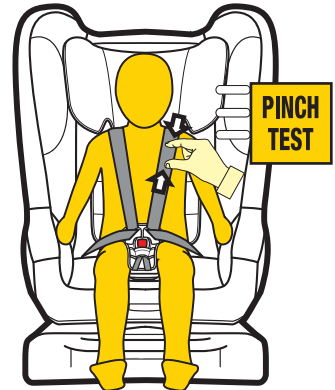

Figure 7
- Step 6:** Check the harness tightness by the **PINCH TEST**, this is achieved by pinching the harness webbing at the shoulders (refer Figure 7)